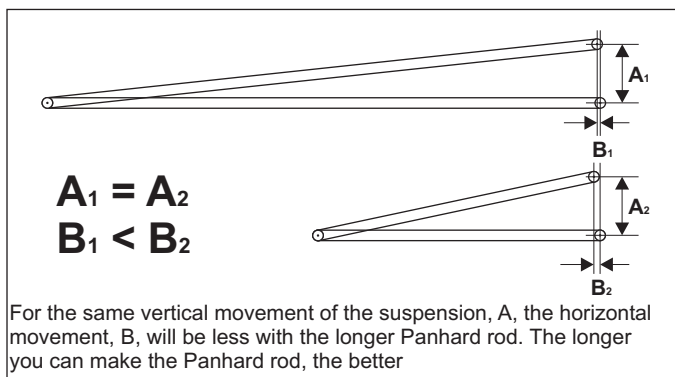

Figure 1
1) To make the rod as long as possible. The rod end attached to the rear end will actually travel in an arc, in relation to the body-anchored rod end, as the body moves vertically on the suspension (**Figure 1**). This in turn will allow or induce a small